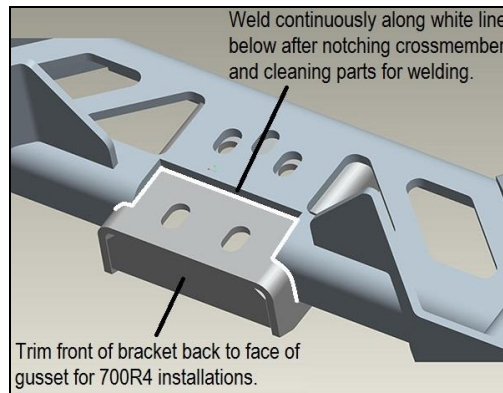
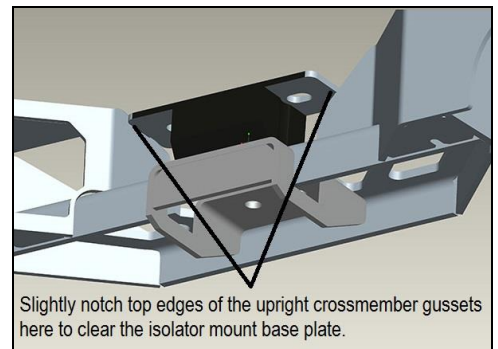

Figure 2
Figure 3
3. Attach the bracket to the crossmember placing the supplied bolts and nuts in the holes that pass through both the bracket and crossmember (**Figure 2**).
4. If you are using this kit to install a 700R4 transmission, trim the front of the bracket off so that it is even with the front edge of the bracket gusset plate (**Figure 2**) and slightly notch the top edges of the upright crossmember gussets to clear the isolator mount base plate (**Figure 3**). If you are using this kit to install a TH350, leave the bracket length as-is as you will be attaching the transmission mount to the forward set of holes in the bracket.
5. Once notching/clearancing is complete, clean parts and weld them together using either a MIG or TIG welder (**Figure 2**) and spot-paint as desired to match.